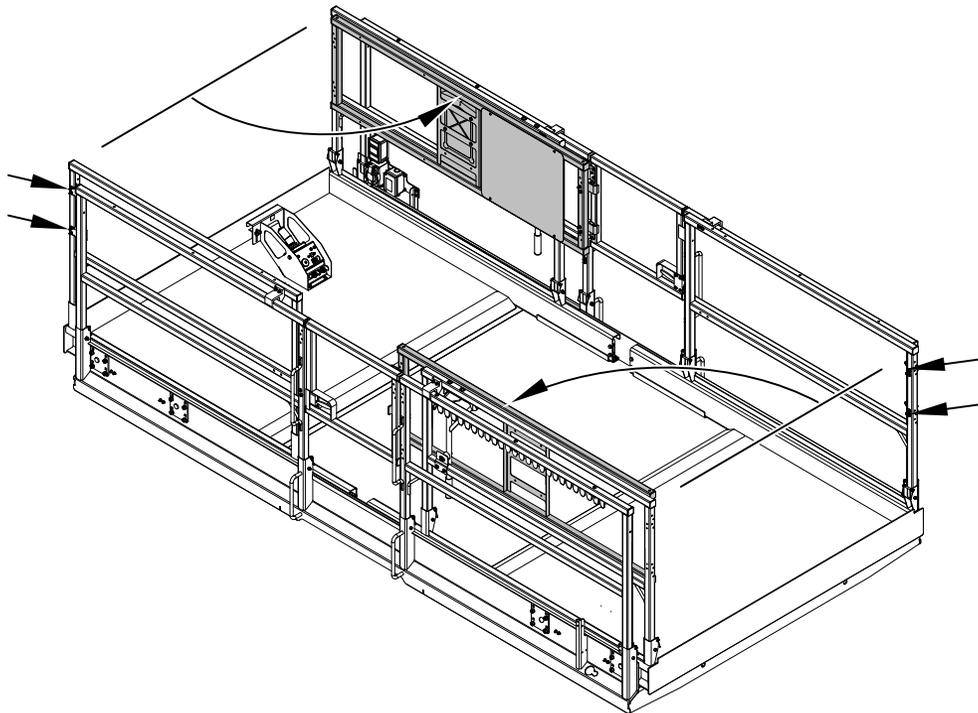
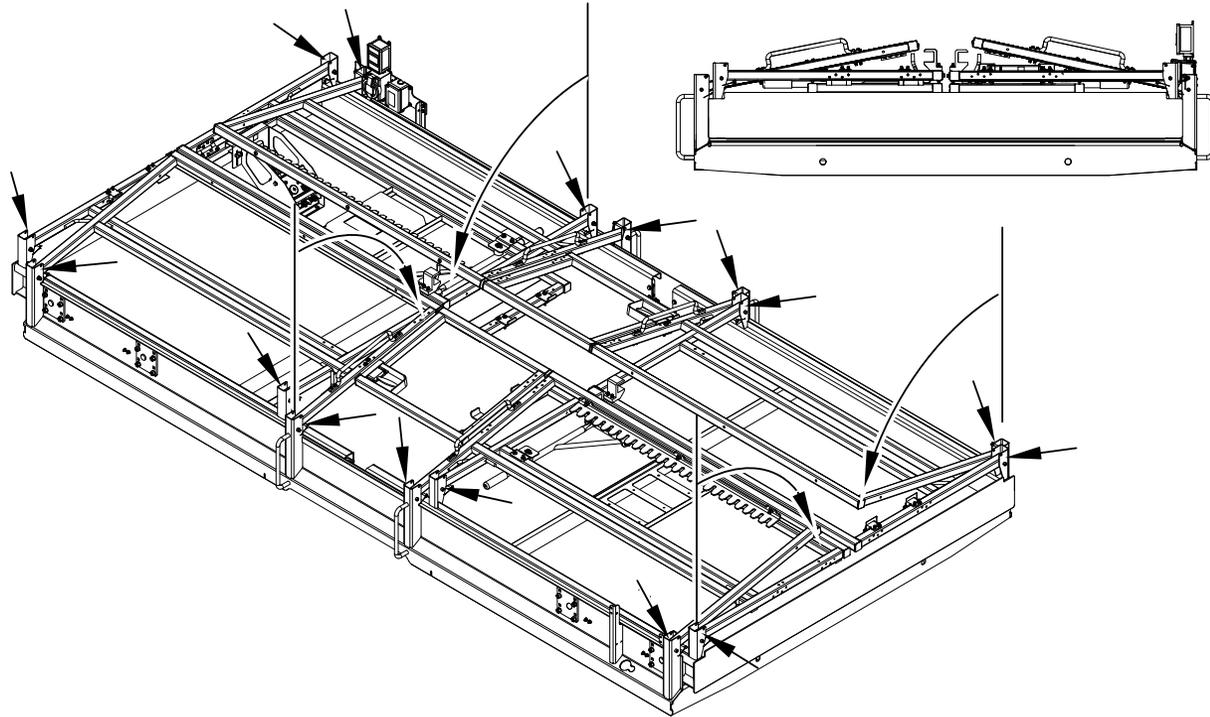

Figure 3-6. Platform End Rails - Fold Down Sequence
Figure 3-7. Platform Side Rails - Fold Down Sequence
(See Figure 3-6. and Figure 3-7.)
- First - pull platform end rail pins (two pins per end rail, see arrows in Figure 3-6. on page 3-22), **and swing platform end rail into side rails.**
- Second - pull pins (four per rail set, see arrows in Figure 3-7. on page 3-23), **fold down side rails together.**